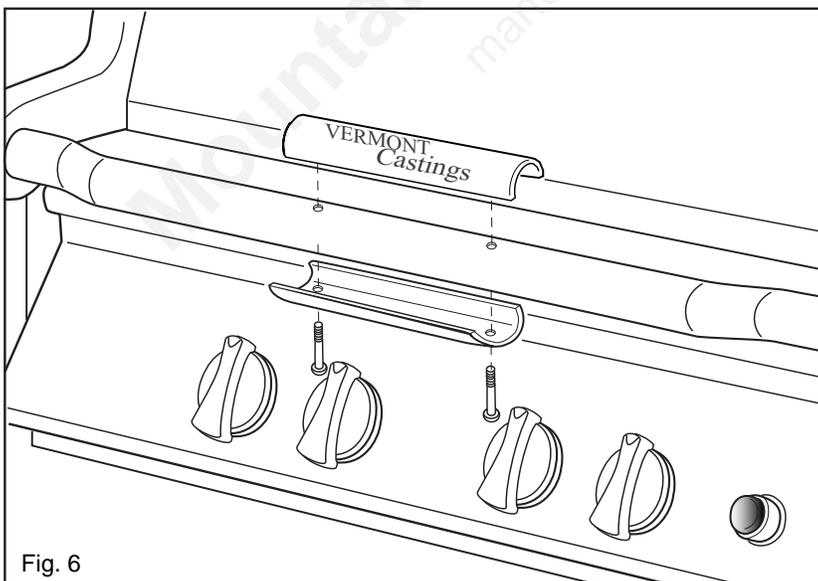

Fig. 6
Place the top grip (with the logo) onto the front handle, using the holes as a guide. Snap the lower grip in place, and fasten together using the (2) screws (Fig 6).